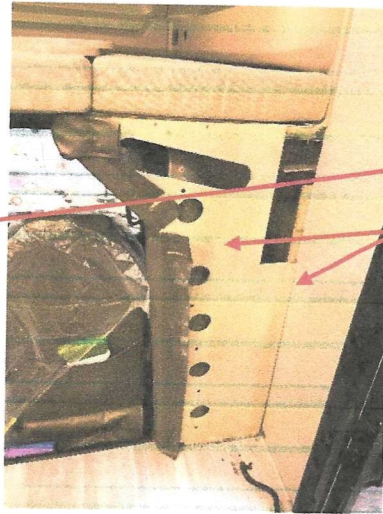

Fig 11
11) Using a right angle screw gun attachment, glue and screw 1"x4" backer to wall end where new wing wall plywood will be installed. Add the new plywood wing wall by fastening it to the cleats, bunk, and radius side, screw to fiberglass and B pillar. (Figure 11)